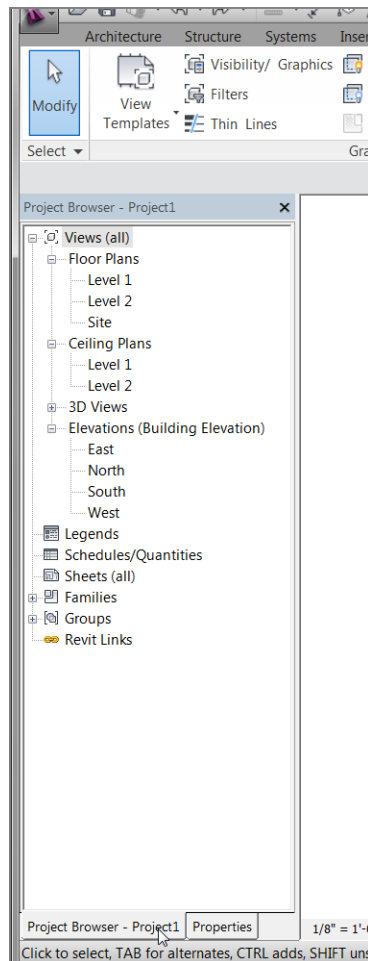

FIGURE 1.46: The Project Browser is your new BIM Windows Explorer.
1. To the far left of the Revit interface are the combined Project Browser and Properties dialogs. At the bottom of the dialogs, you'll see two tabs as shown in Figure 1.46. Click the Project Browser tab.